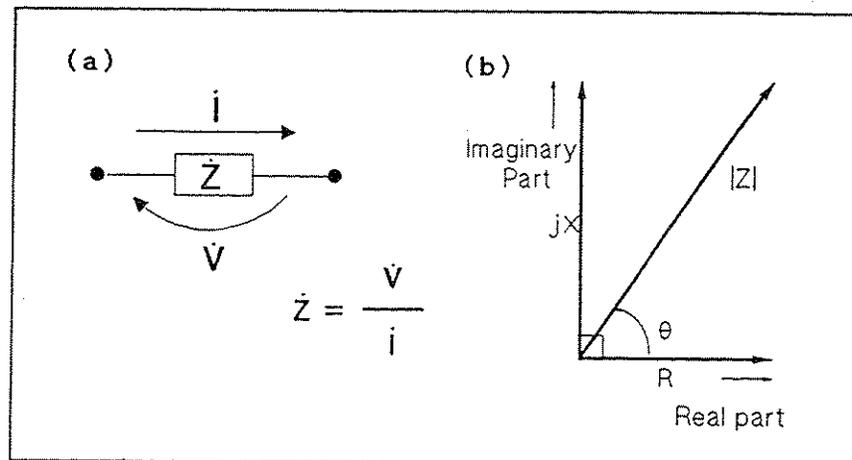

Figure 7-1. Definition of Impedance
Figure 7-1, (A) shows the complex impedance definitions and (B) shows the vector representation of complex impedance. Impedance, \dot{Z} is the total opposition that a circuit or device offers to the flow of alternating current at a given frequency. \dot{Z} contains a real and an imaginary part, and it is expressed in rectangular form as Resistance and Reactance, or in polar form as magnitude of Impedance and Phase as follows.